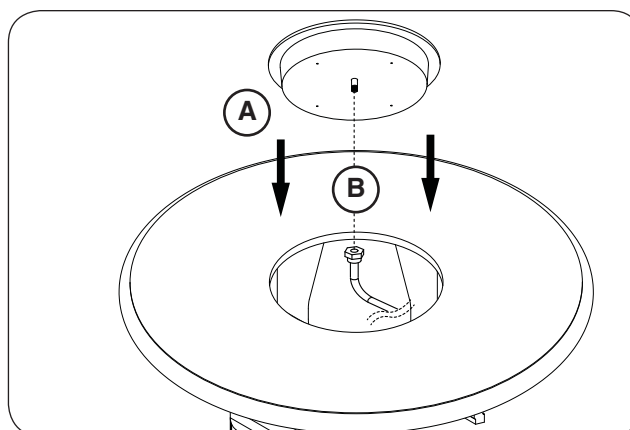

Fig. 17-4 Three-piece models: place burner & connect flex
5. Drop the burner assembly into the opening in the center of the firetable top (see Fig. 17-4).
6. Locate the short flex connector that is coming off the top of the valve assembly (found inside of the enclosure). Route it to the connection found on the underside of the burner assembly and connect. Tighten securely. See Fig. 17-4.